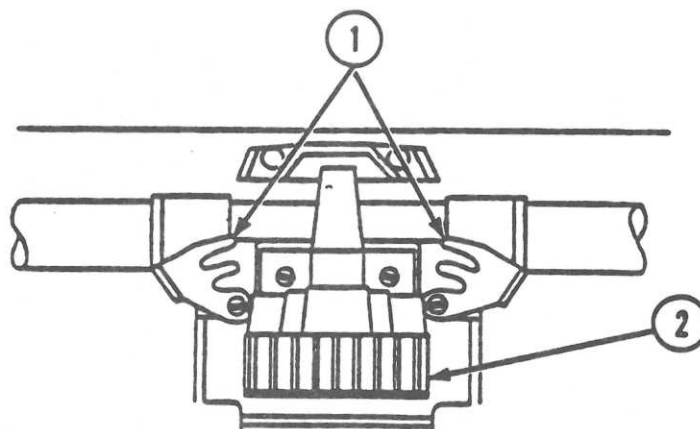

FIGURE 14
4. To free the dot head, slide out both dot head latches. (See Figure 14, #1.)
5. Pull up the dot head. (See Figure 14, #2.) If you have trouble getting it out, pull the paper roller shaft forward. Ease the dot head around the roller shaft.